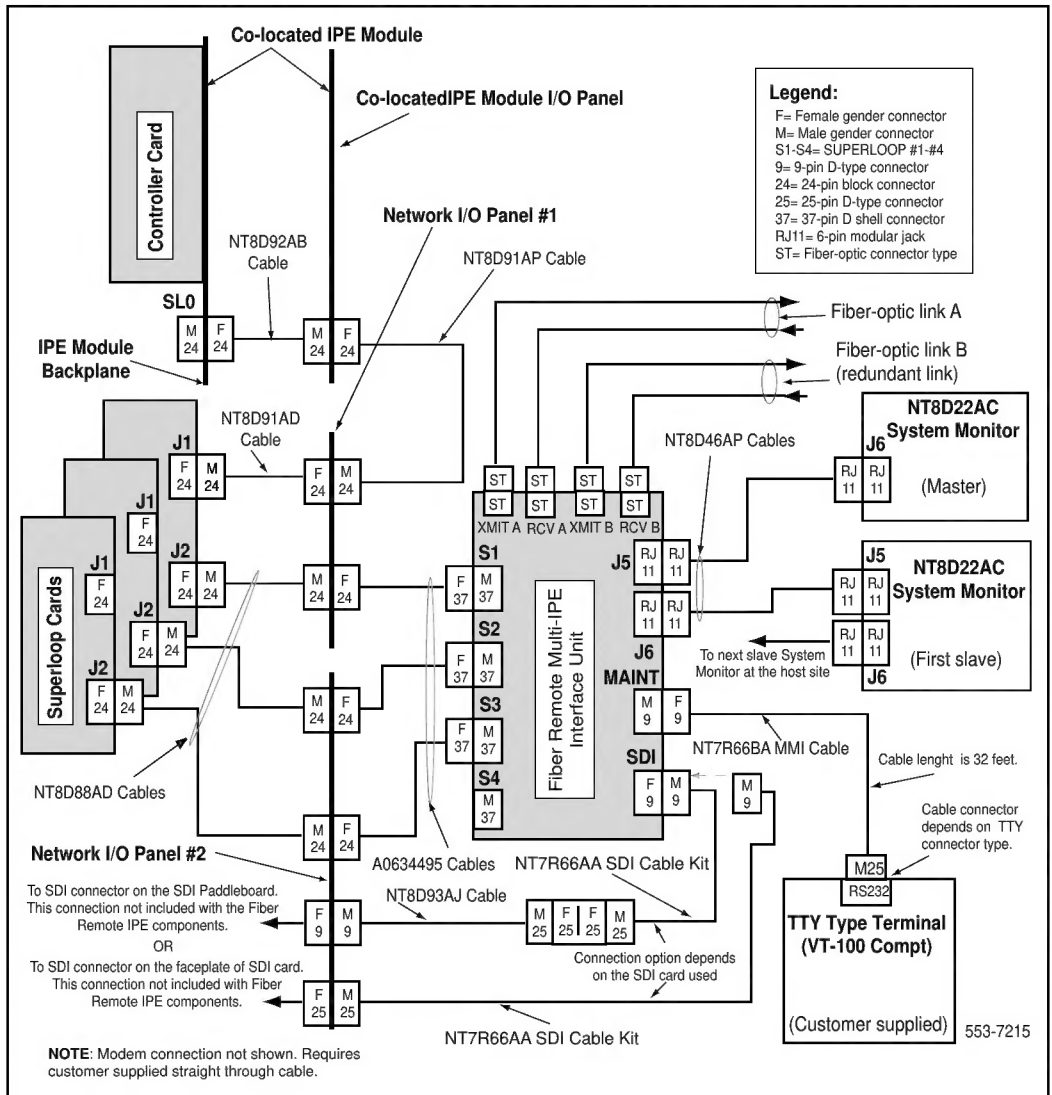

Figure 16
- **Figure 16** shows multiple Fiber Remote Multi-IPE Interface unit connections: